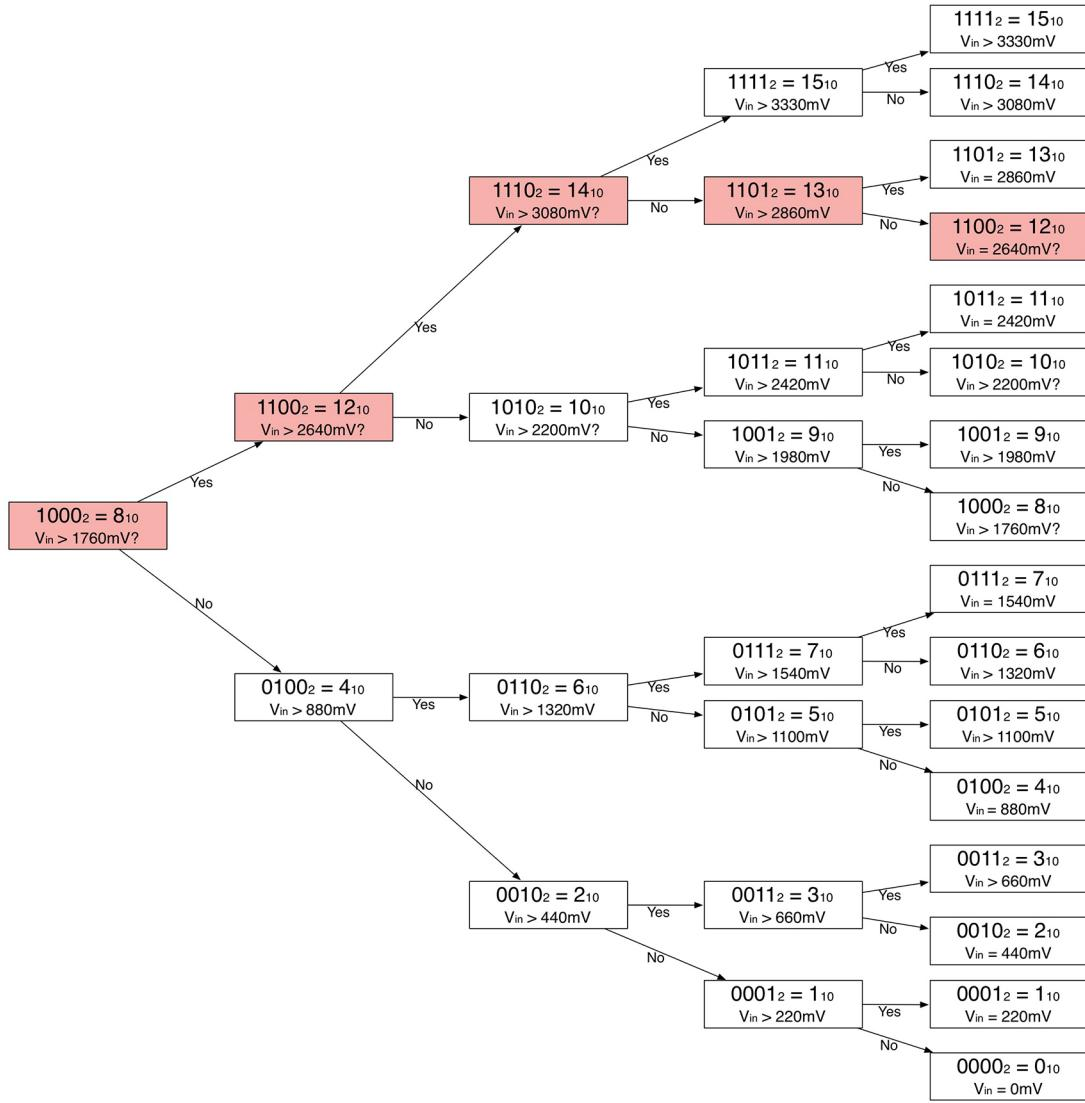

Figure 12.3: The conversion process made by a SAR ADC
**Figure 12.3** represents the conversion process made by the SAR logic unit inside a 4-bit ADC. Let us consider the path highlighted in red and let us suppose that  $V_{IN} = 2700mV$  and  $V_{REF} = 3300mV$ . The algorithm starts by setting the MSB to 1, which corresponds to  $1000_2 = 8_{10}$ . This means that: